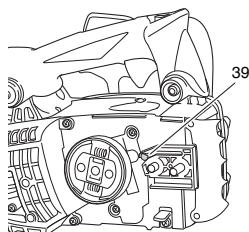

Fig. 34
**Orifice de lubrification (Fig. 34)**